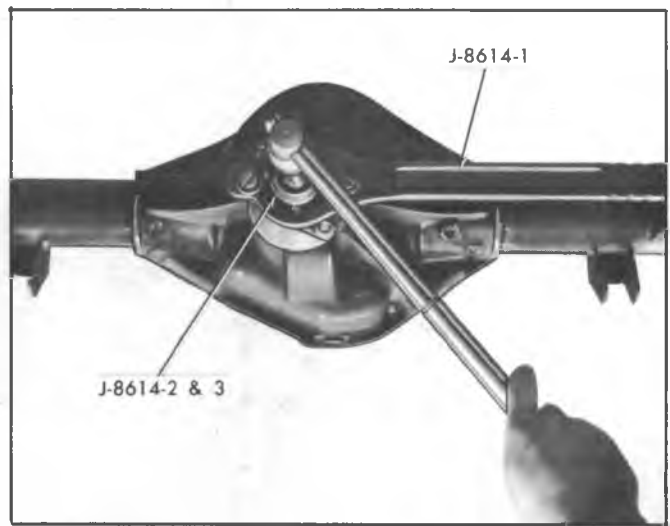

Fig. 4D--Removing Pinion Flange
3. Install Tool J-8614-2, and 3 into holding bar as shown in Figure 4D and remove flange from drive pinion. Remove drive pinion from carrier.